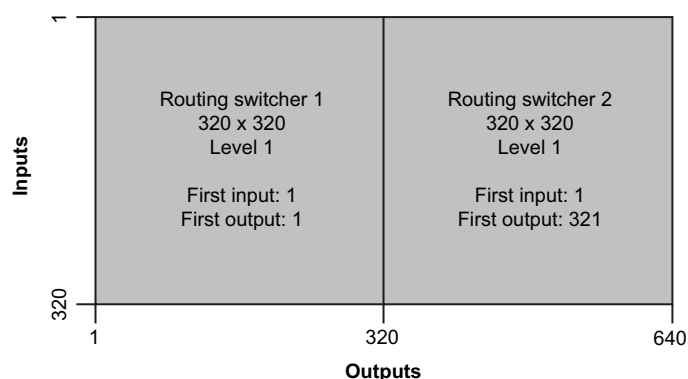

Figure 4.9 Offsetting Two Routing Switchers for Common Inputs and Parallel Outputs
- with common inputs and parallel outputs (see **Figure 4.9**)